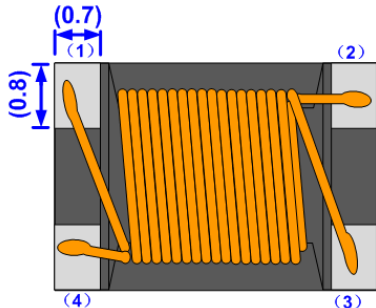

Fig.4-3
①	Lid	Ni-Zn Ferrite
②	Epoxy	Epoxy resin
③	Wire	Polyurethane system enameled copper wire
④	Core	Ni-Zn Ferrite
⑤	Electrode structure	Ag+Ni+Sn plating
4.2 Dimensions: See Fig. 4-3.